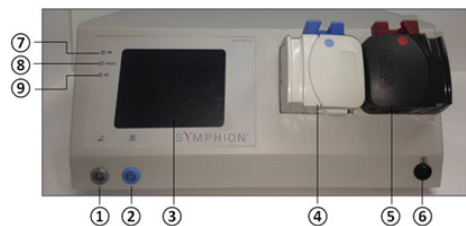

Figure 1A: Controller Front
3. Connect the footswitch cable to the footswitch receptacle (Fig. 1A, Item 1) on the left-hand side of the front panel of the Controller (Fig. 11).